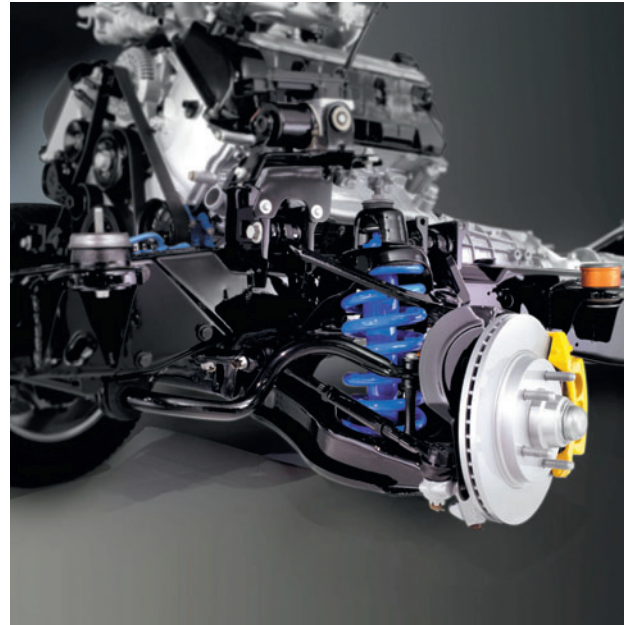

Figure 2.5 Mechanical systems
- ▶ When an engine will not start – check that there is fuel in the tank (Figure 2.5).